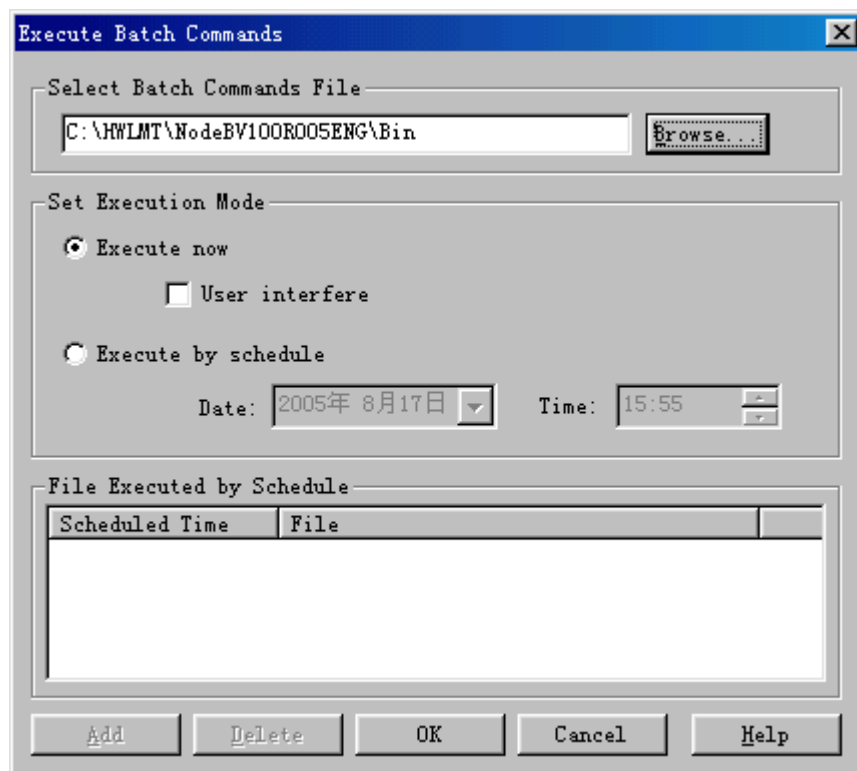

Figure 4-7 Execute Batch Commands dialog box
- 1) Choose **System** -> **Execute Batch Commands**, or press **Ctrl+R**. The **Execute Batch Commands** dialog box opens up, as shown in Figure 4-7.
The **Execute Batch Commands** dialog box opens up, as shown in Figure 4-7.